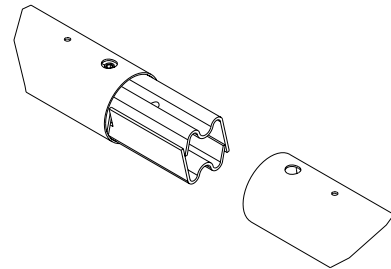

FIGURE 5
2. Slide tube over connector and line up hole. See Figure 5.